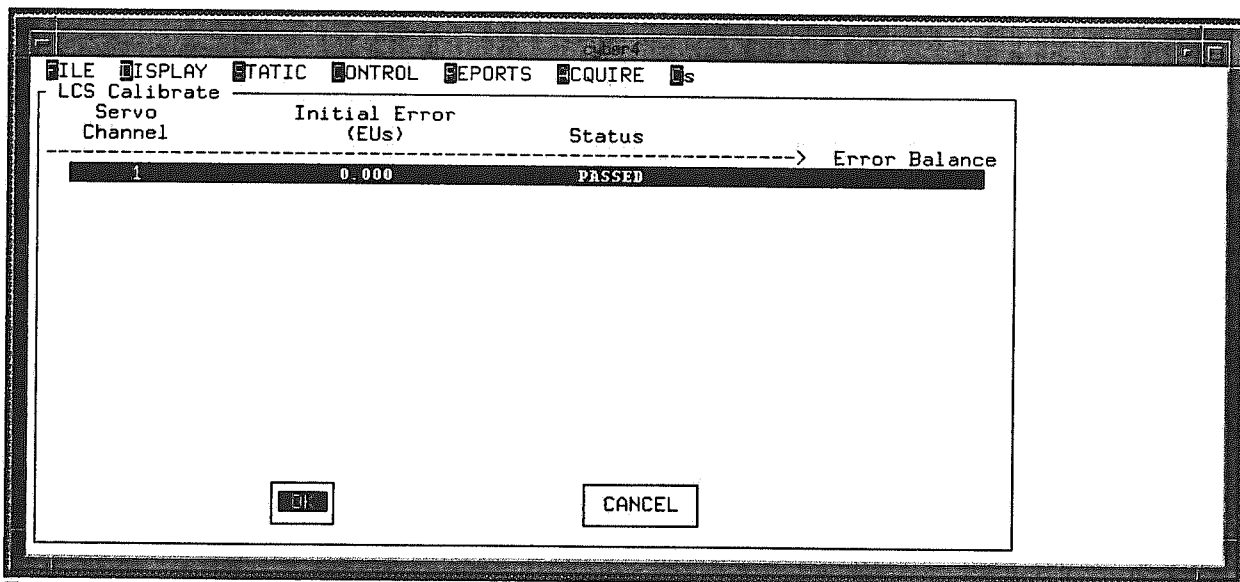

Figure 7-5 Error Balance Report Screen
- Step 5:** Once Error Balance is completed, the Error Balance report shown in Figure 7-5 is displayed. The column labeled Initial Error (EUs) indicates what the initial loop error was for each control channel, in engineering units, prior to calibration.